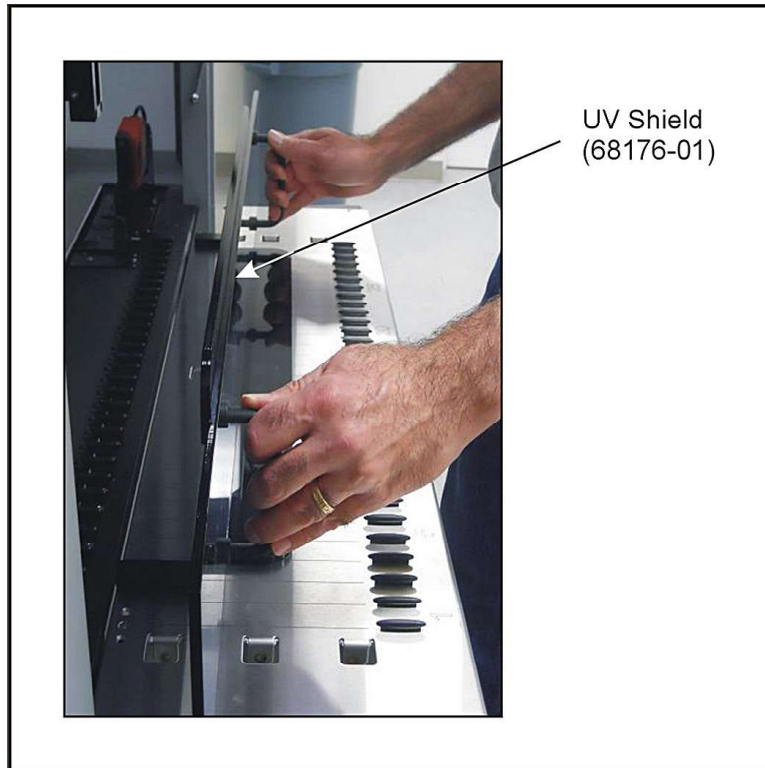
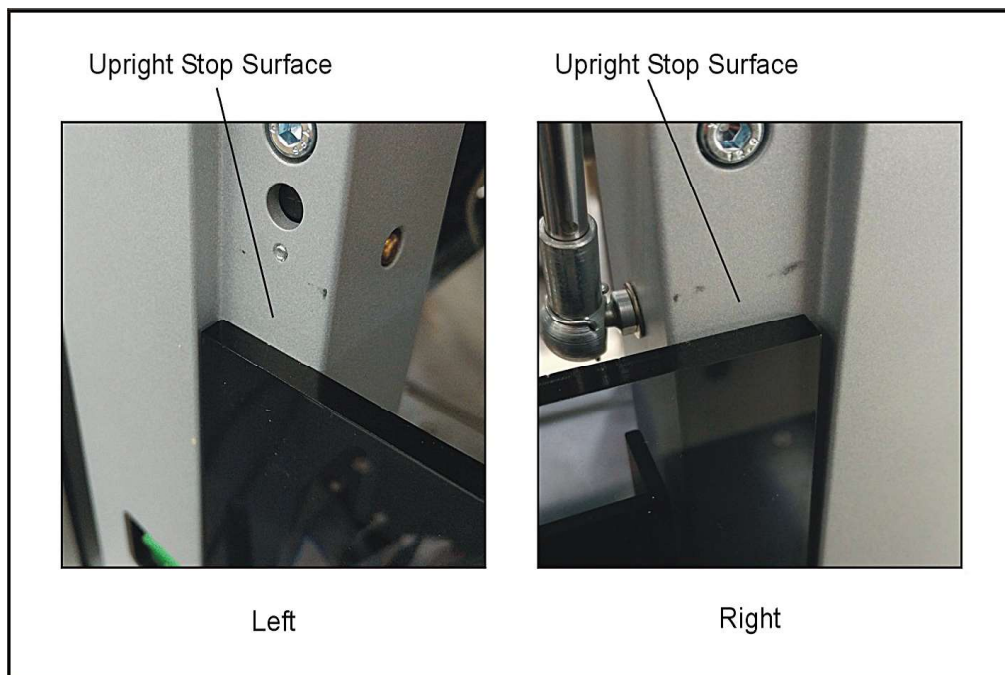

Figure 4-1: Putting the UV Shield in place on a STARlet Autoload
Figure 4-2: UV Shield against upright stops
3. Install the UV Shield (Figure 4-1) by sliding its two carrier tracks into track positions from Table 4-1 until the ends of the shield are against the stop of the instrument's uprights.(Figure 4-2).